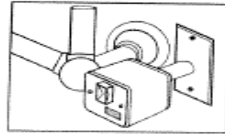

fig 1: Wire Encasement Kit
- C. Check for enclosed Wire Encasement Kit (fig. 1) on the following Towel Warmer Lines: Angara, Ferlo (ECM), Lindi & Tamar.
***Please note that the ERR & ECM models come with the Wire Encasement Kit box down, (at bottom of right vertical rail), whereas the EMR750, Classic, and Traditional lines come with the Wire Encasement Kit as shown in fig. 1, (box on right).**
(For The Lines That Come With The Wire Encasement Kit Shown in fig. 1: Angara, Ferlo(ERR, ECM& EMR750) & Tamar.)